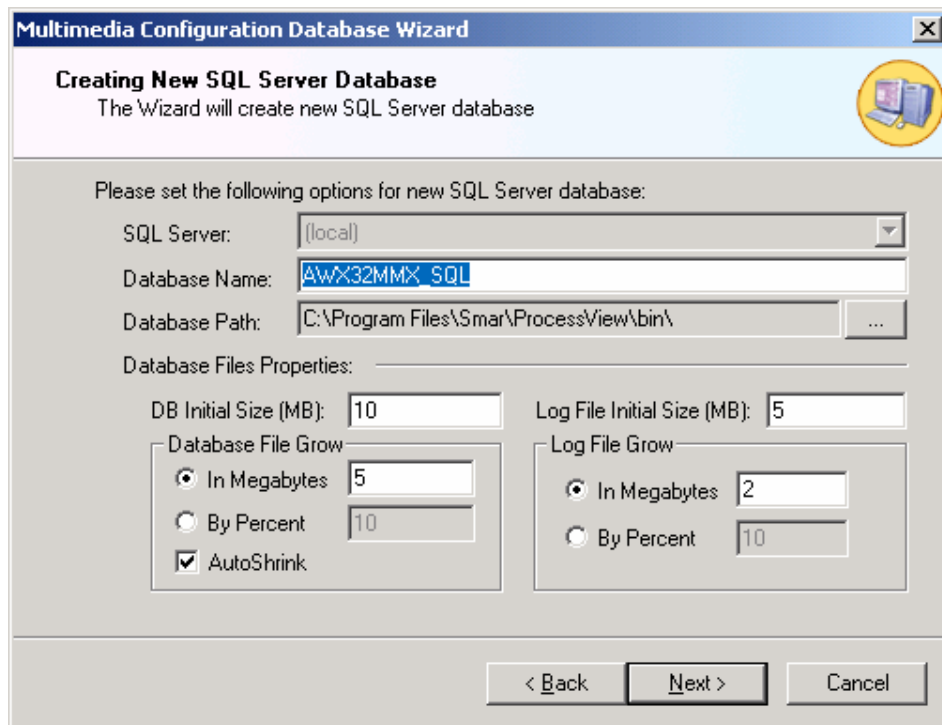

Figure 1.16 Specifying the Database Location and Properties
- Choose the settings for the SQL Server database parameters, as shown in **Figure 1.16**. In the **SQL Server** field, select the local SQL Server on which to create a new database. Type a name for the database in the **Database Name** field. In the **Database Path** field, choose a directory path for the new database. You can browse for a directory by clicking the ... button to the right of this field.